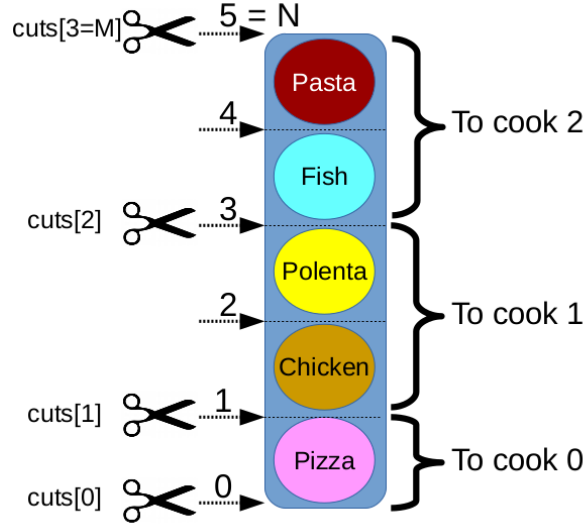

Figure 4: How cutting works: example with  $N = 5$  dishes,  $M = 3$  cooks
- **cuts** list of the positions where to "cut" the pool. There are always M+2 entries. cuts[0] and cuts[M] are fixed at the values 0 and N respectively (where N is the total number of dishes in the pool). While the intermediate cuts (from 1 to M, one for each cook) can move between those values. See figure 4.